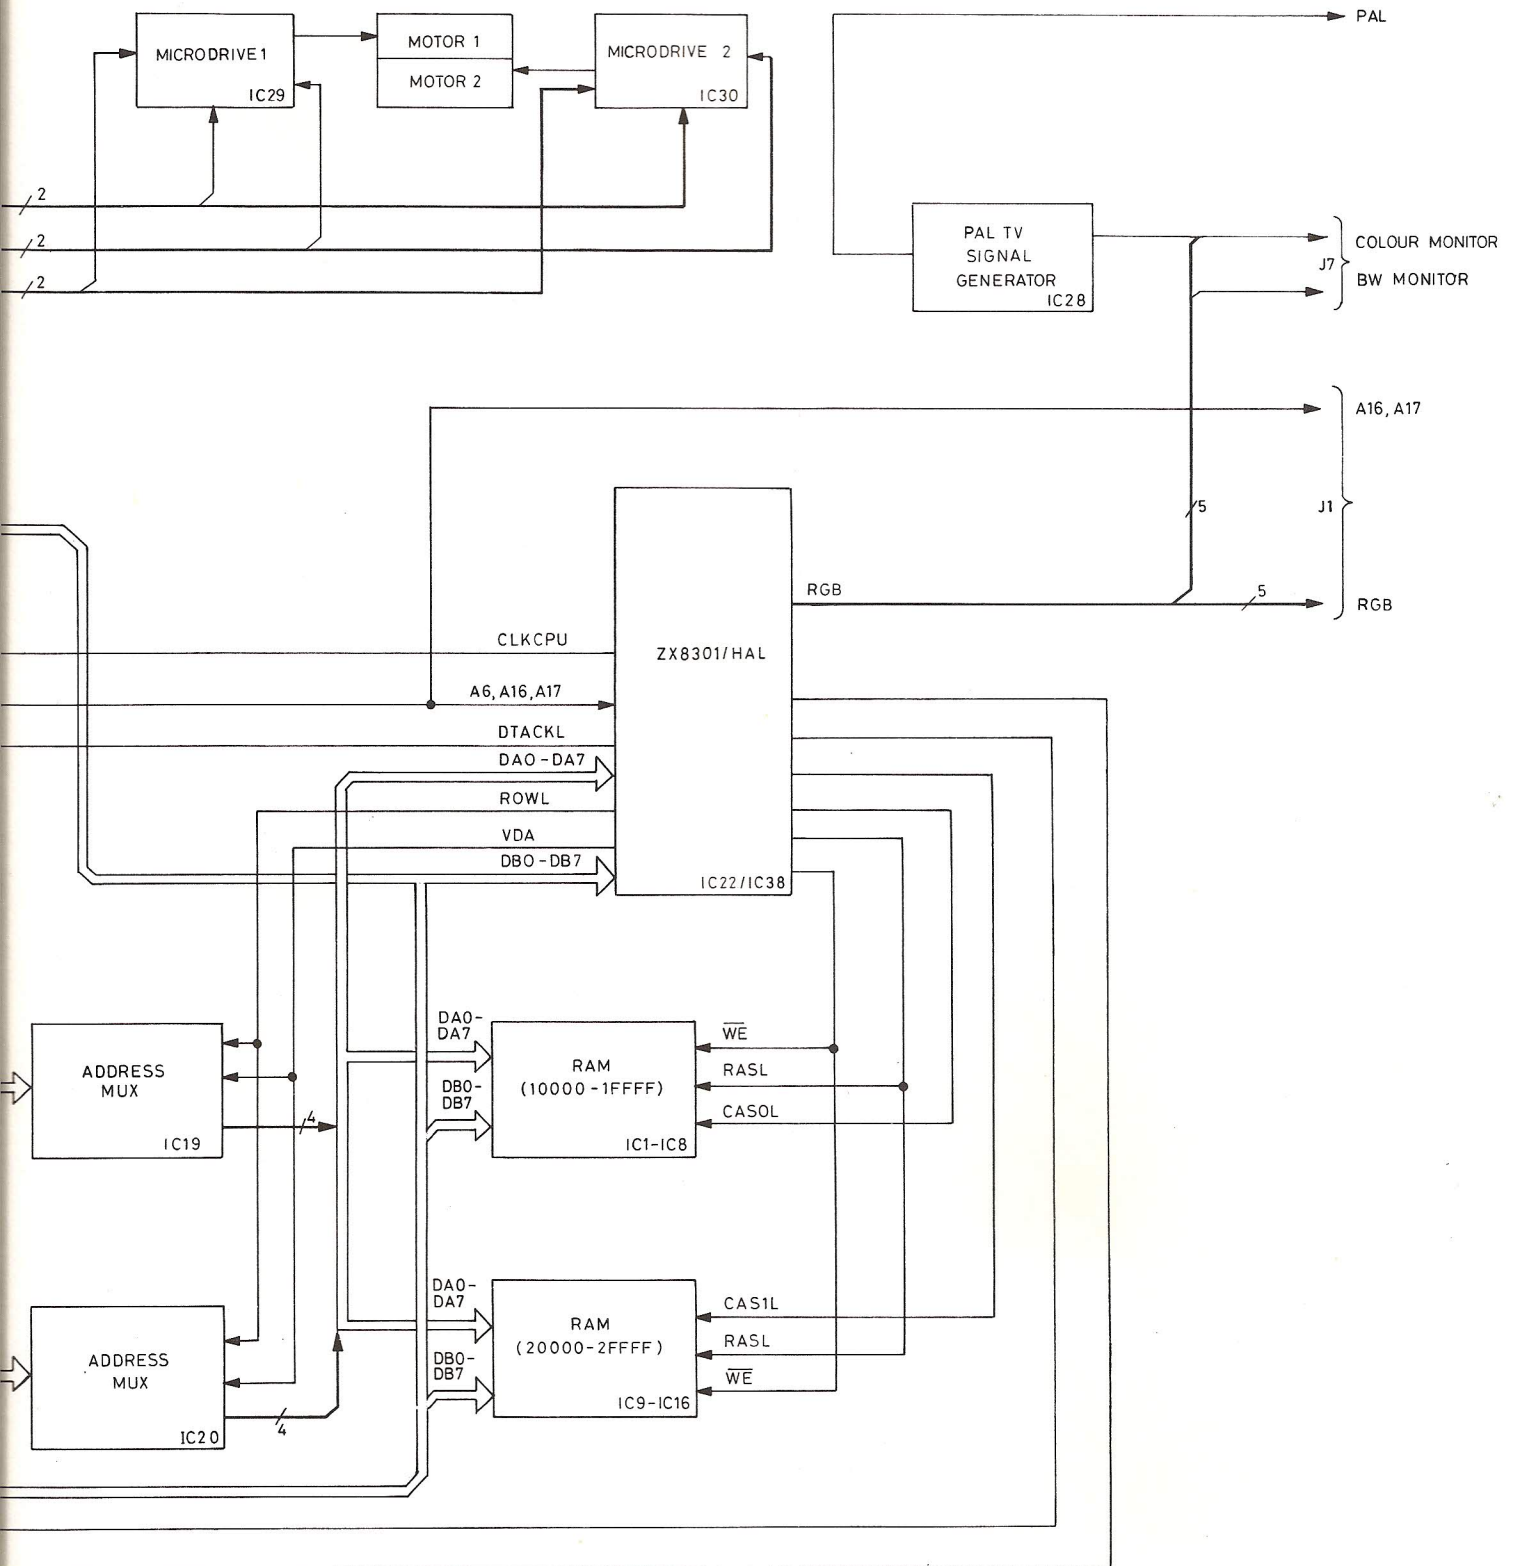

FIGURE 1.3 QL BLOCK DIAGRAM
- 5.1.1 The pre- Issue 6 version was supplied in both EPROM and ROM forms with on-board straps enabling the selection of ROM. Both versions have 48k of ROM and in both versions there are 128k bytes of RAM memory. Figure 1.3 shows how the memory is organised.